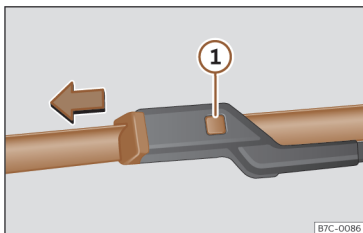

Fig. 213 Changing the windscreen wiper blades
- Press and hold release button >>> **Fig. 213** ① and pull gently on the wiper blade in the direction of the arrow.